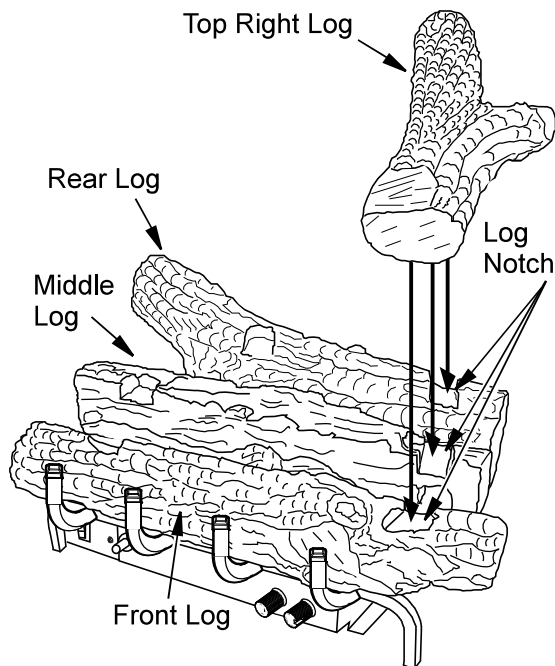

Figure 27 - Installing Top Right Log
4. Place the top right log onto the rear, middle and front logs as shown in **Figure 27**. The rear, middle and front logs have notches for the top right log to set into. You may have to move the front log from left to right to get it to line up with the top right log.